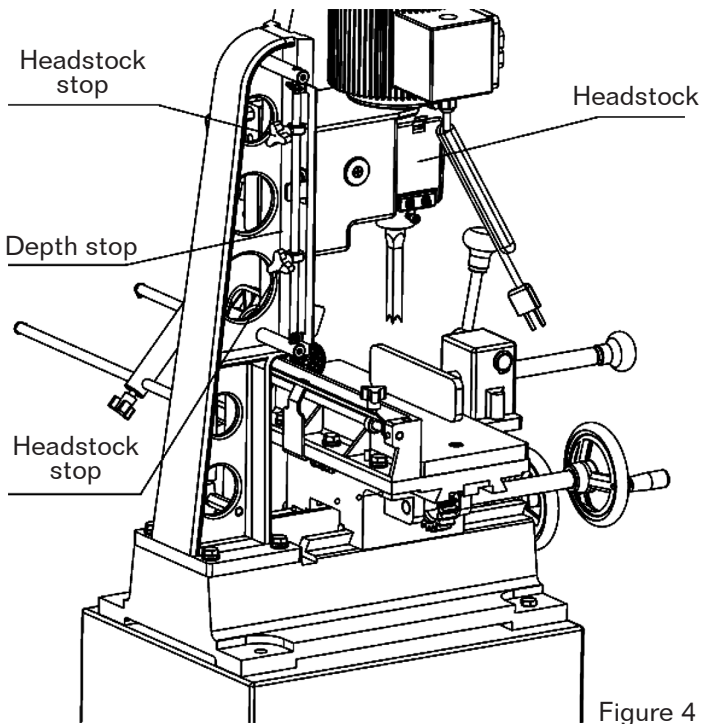

Figure 4
1. Set depth stop to the required depth of cut. See Figure 4.